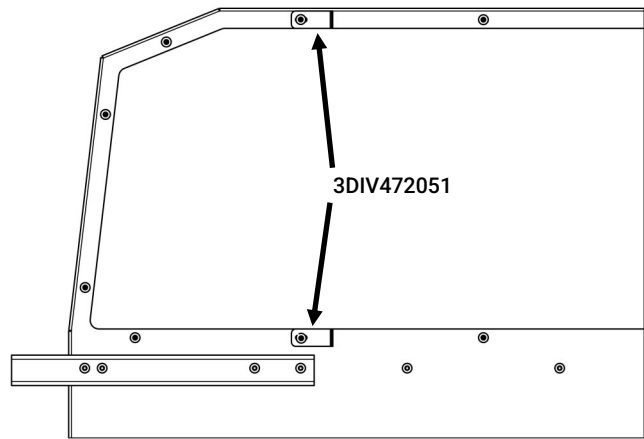

Figure 5
11. Loosely install divider brackets [3DIV472051] using supplied 1/4"-20 Phillips head bolts [3X06], these bolts will replace (2) existing bolts that hold the window into the barrier. The location of these brackets is detailed in Figure 5. Bent flange on brackets should face towards driver side of the vehicle